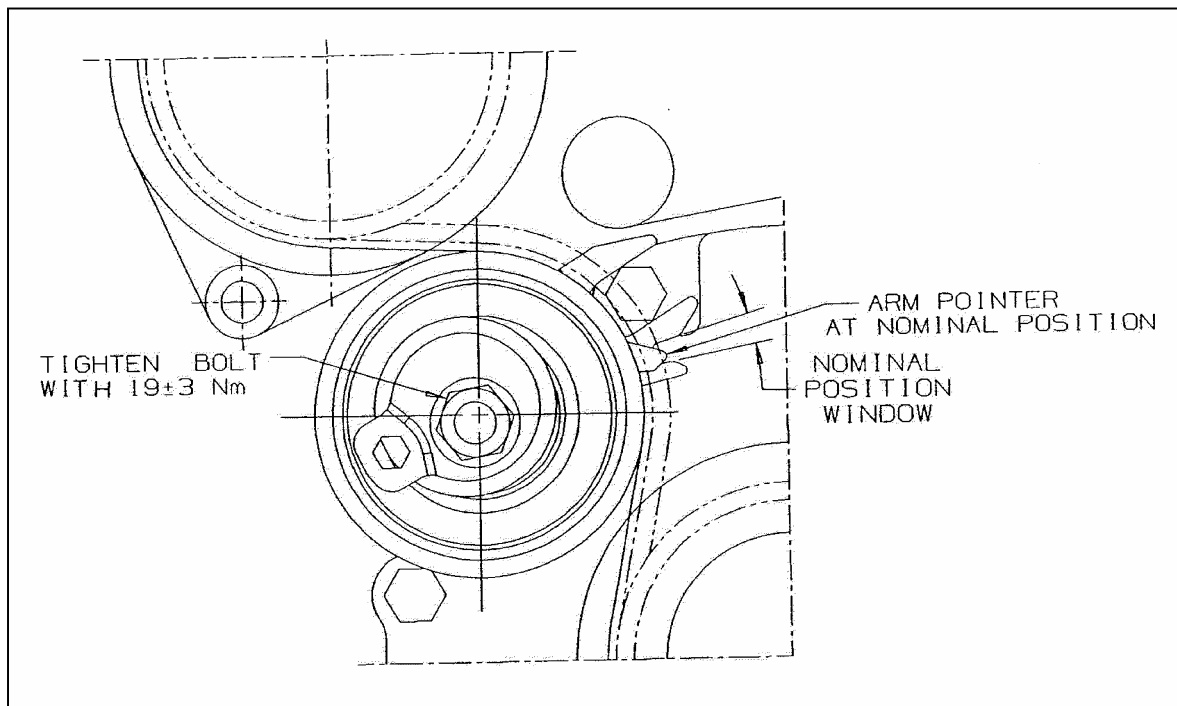

Figure 4: Final Installation
5. Mount the new TBT (see Fig. 4) on the engine ensuring that the tensioner's Anti-Rotation Fingers fit into the Guiding Nut on the engine (see Fig 4 + 5).